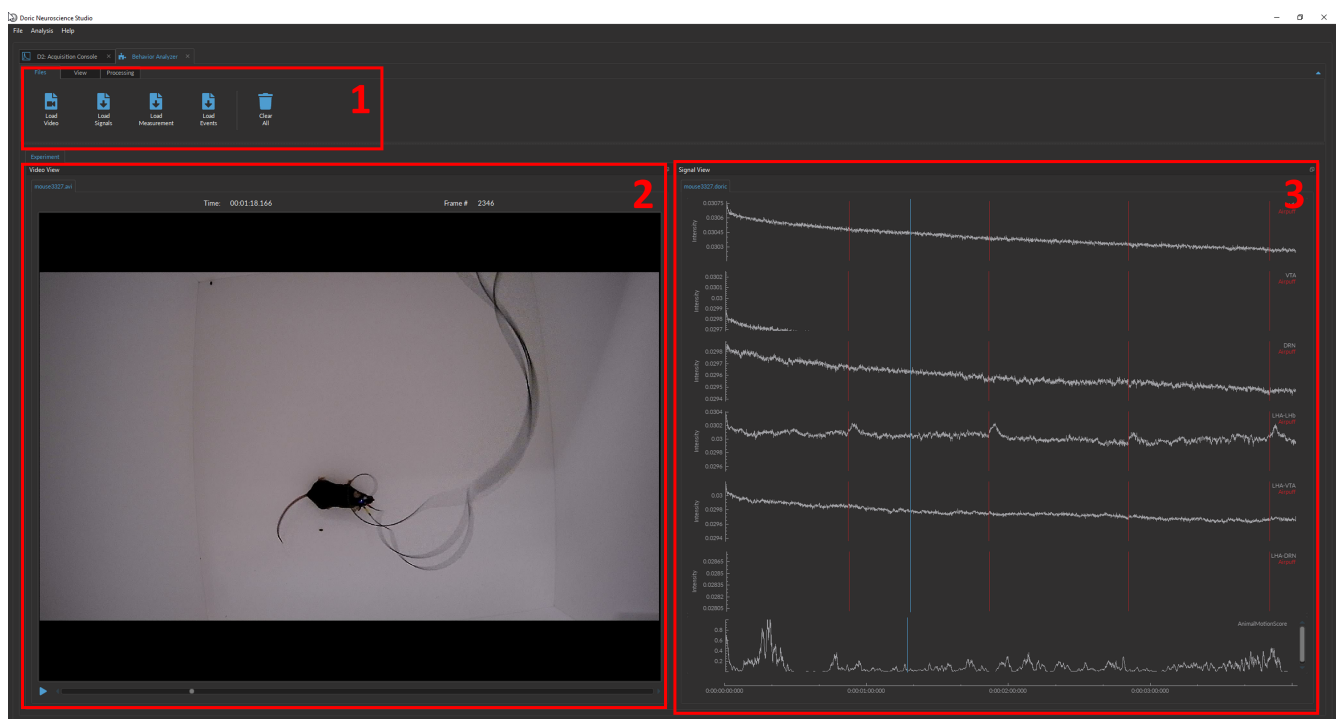

Figure 15.1: Behavior Analyzer Module Interface
The interface can be separated into three major sections (Fig 15.1):
1. The **Tabs** (Fig 15.1, 1) are used to access the controls, settings, and functions of the module. These controls and settings are split into three tabs, which will be treated in the following sections:
2. The **Video View** (Fig 15.1, 2) displays the recorded footage and controls the frames displayed. The **Play** button on the bottom left runs the video. The scroll bar beside it can be used to choose a frame while the video is paused. See Section 15.4 for more details.
3. The **Signal View** (Fig 15.1) displays the raw traces associated with the video. The red bar over the traces corresponds to the timestamp of the associated frame of the video. See Section 15.5 for more details.